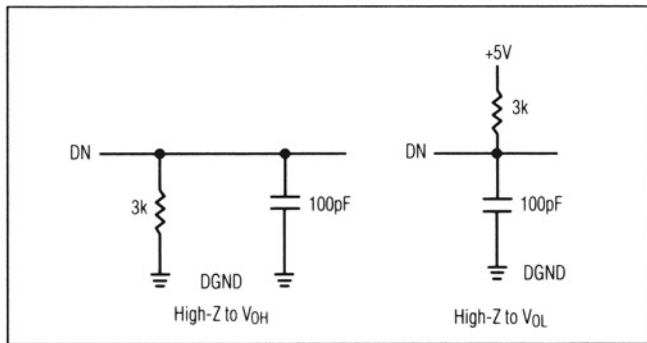

Figure 1. Load Circuits for Data-Access Timing
- Note 4:** t_{DV} is the time required for an output to cross +0.8V or +2.4V measured with load circuit of Figure 1.